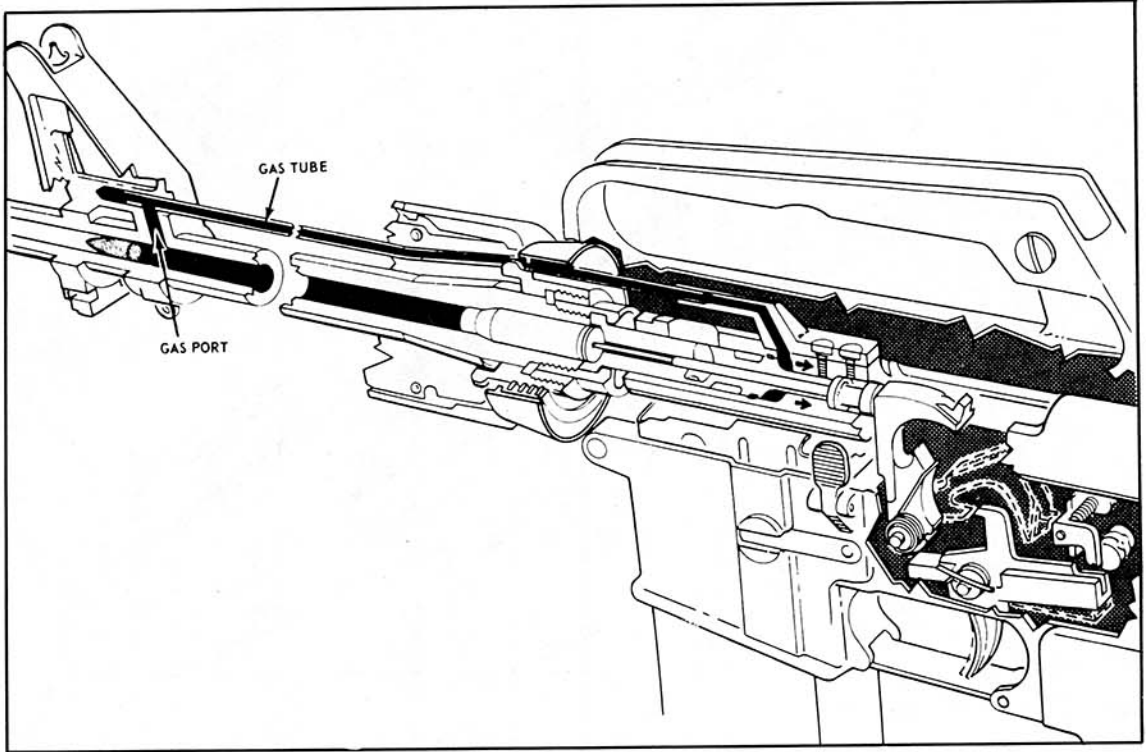

Figure 2-29 Firing
- a. When the trigger is squeezed the hammer strikes the rear of the firing pin and drives it forward onto the cap in the base of the round. The round goes off and forms gas which drives the bullet up the barrel, see Figure 2-29.